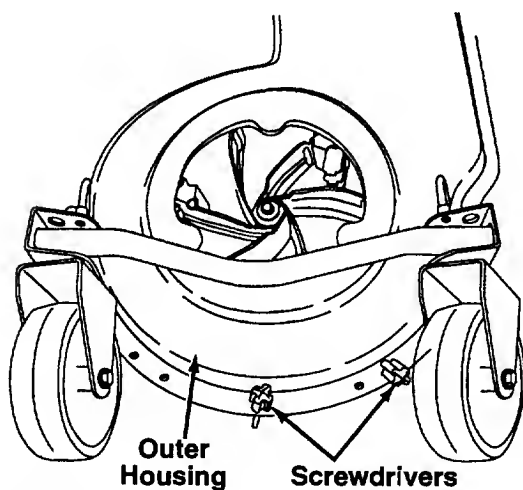

FIGURE 20.
25. Place the outer housing against the inner housing. Insert two screwdrivers into the holes as shown in figure 20. This will hold the blades in place while attaching the outer housing. Secure with the fourteen self tapping screws that were removed in step 12. Start all screws first before tightening.